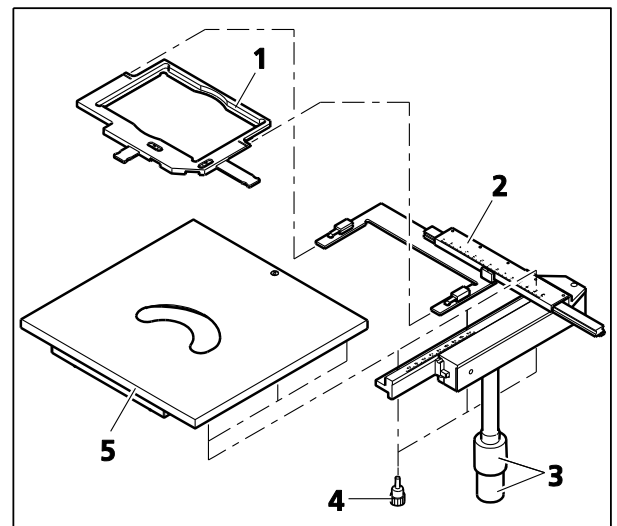

Fig. 2-2 Specimen Stage 232x230 and Object guide M 130x85 mm
- Specimen stage (Fig. 2-2/5) designed to hold and position specimens for transmitted light and reflected light
- With the object guide (Fig. 2-2/2) attached, this stage is capable of holding specimens in mounting frame Flex M (Fig. 2-2/1) and mounting frame inserts for Petri dishes or object slides and chambers, as well as accommodating mounting frame M from the current product line.
- Coaxial drive (Fig. 2-2/3) designed to position the mounting frame in XY
- To attach the object guide to the right-hand or left-hand side of the stage, set the guide onto the stage from below and secure it firmly in place with the screws supplied (Fig. 2-2/4)